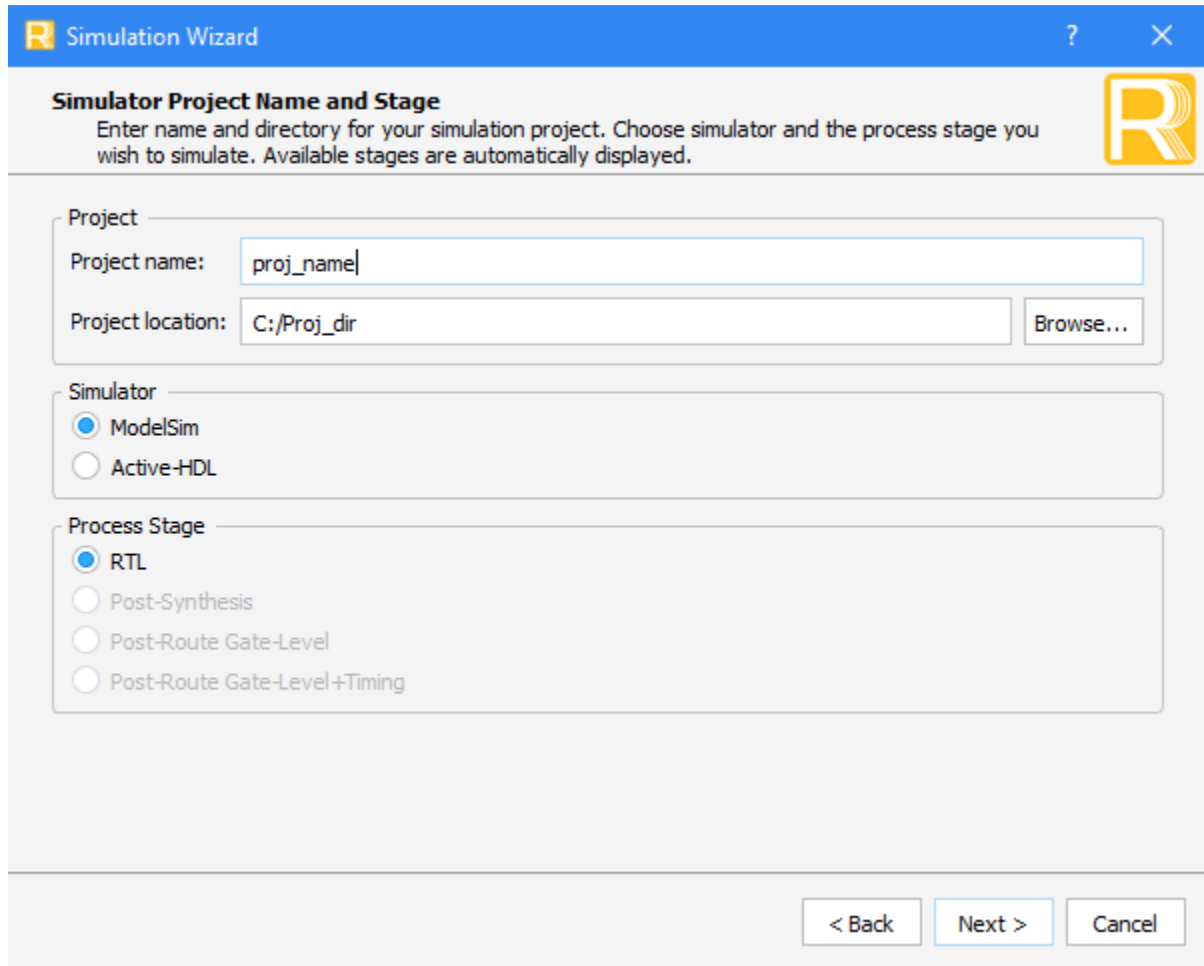

Figure 3.4. Simulation Wizard
2. Press  button located on the Toolbar on the top of your screen to initiate Simulation Wizard, as shown in Figure 3.4.